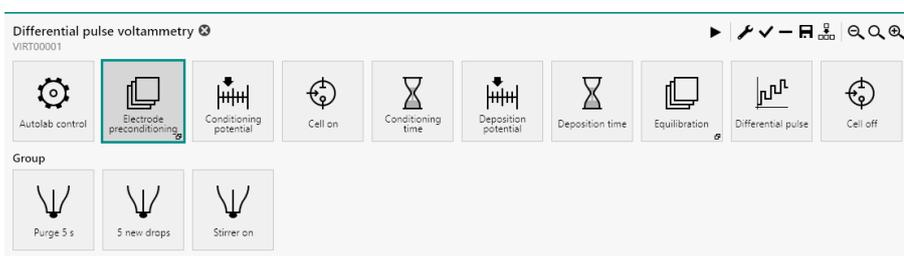

Figure 626 The Electrode preconditioning group
- Electrode preconditioning:** this command group is used to create new mercury drops at the beginning of the procedure. The commands in this group are used to purge the solution for the specified duration, create the specified number of new drops and switch the stirrer on (see Figure 626, page 524).